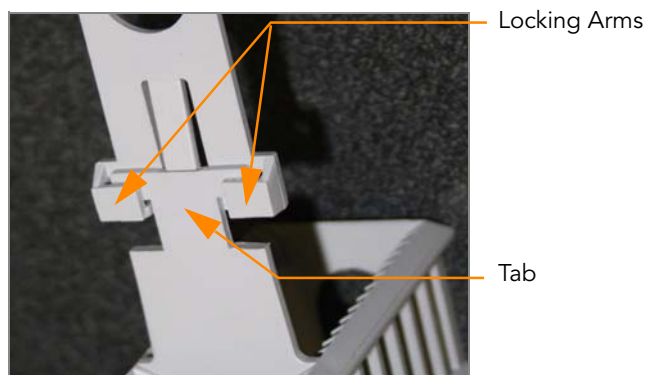

Figure 164 Staining Rack Locking Arms and Tabs
5. Submerge the unloaded staining rack into the wash dish with the locking arms and tab facing **towards** you (Figure 164). This orients the staining rack so that you can safely remove the BeadChips.